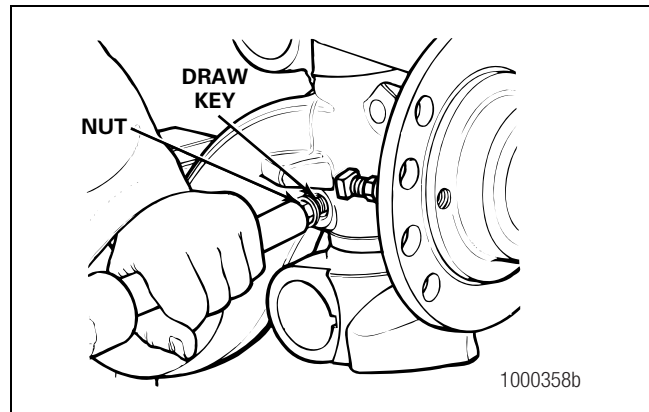

Figure 4.17
- B. Use a brass drift and a hammer to hit the end of the draw key. Figure 4.17.